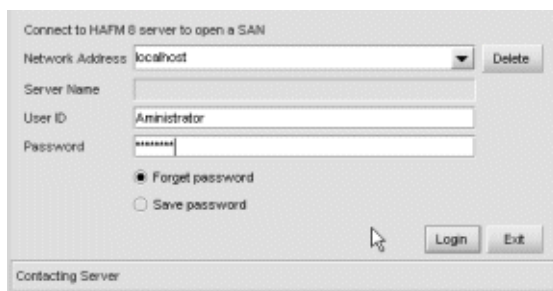

Figure 62: HAFM 8 Log In dialog box
1. Double-click the **HAFM** icon to launch HAFM. The HAFM 8 Log In dialog box displays, as shown in Figure 62.